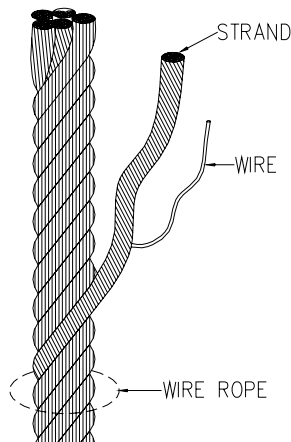

Figure 6-1.
- (b) Six randomly distributed broken wires in one rope lay. A rope lay is the length of rope along which one strand makes a complete revolution around the rope. See Figure 6-1. Keeping the rope clean and wound evenly on the drum will increase its life and efficiency.